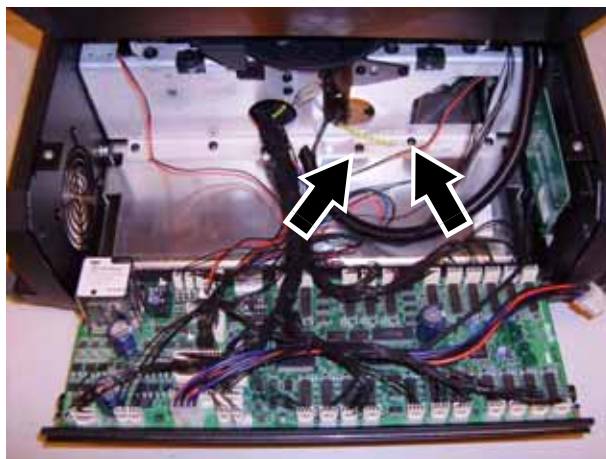

Figure 22
24. See Figure 22. Remove the two Torx 20 screws (P/N 08070701) arrowed from the chassis facing the main PCB, noting that a ground (earth) lead is fastened to one of the screws.